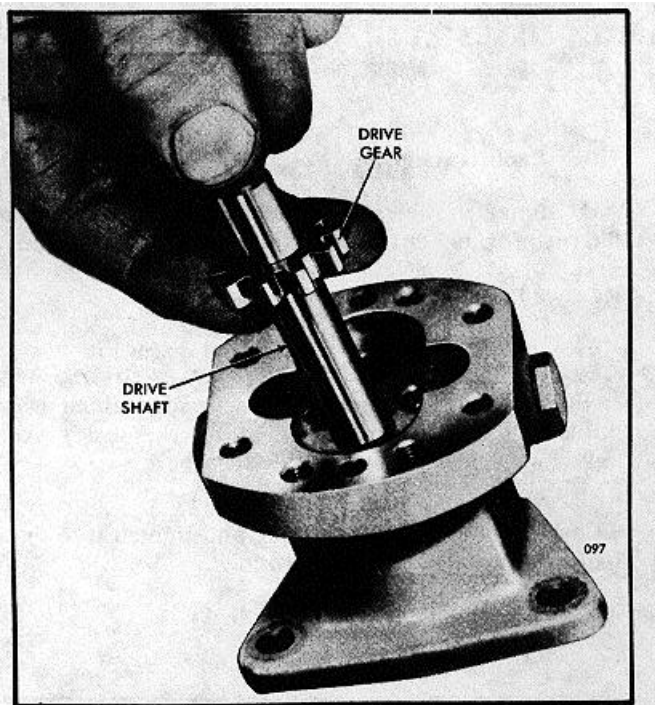

Fig. 10 Installing Drive Shaft and Gear Assembly
4. Lubricate the pump shaft and insert the square end of the shaft into the opening at the gear side of the pump body and through the oil seals as shown in Fig. 10.